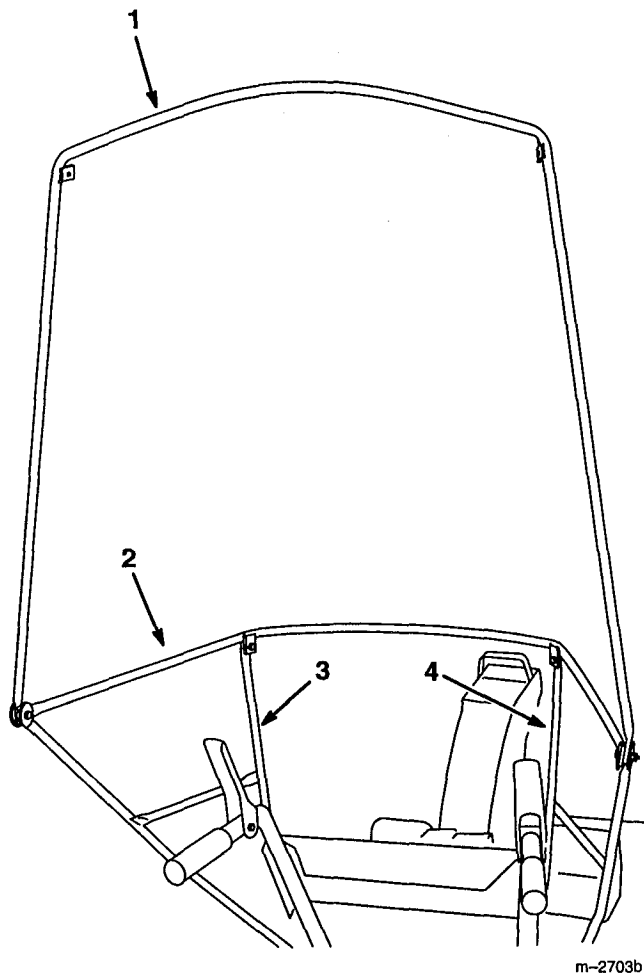

Figure 7
1. Remove the locknuts and install the rear vertical bow to the outside of the left and right brackets (Figs. 7 and 8).